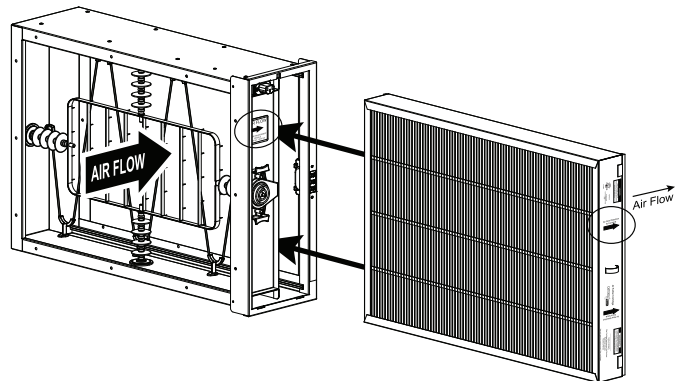

Fig. 16 – Replace Filter
2. Slide the filter into the cabinet next to the FEM with the filter pull-tab facing outward and paying particular attention to the airflow direction arrows (Fig. 16).